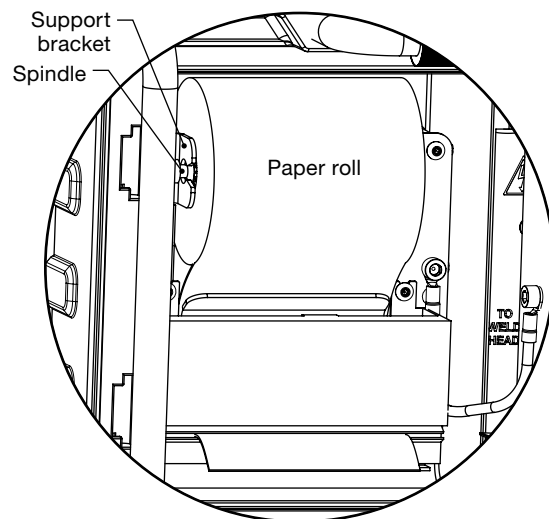

Fig. 53—Properly Loaded Paper Roll
7. After the paper is loaded, slide the **spindle** through the **paper roll**. Press the ends of the spindle together and snap it into the **support bracket** (Fig. 53). To remove slack in the paper, re-roll the paper or press Paper Feed on the Main Menu. Press Paper Feed to advance and straighten the paper.